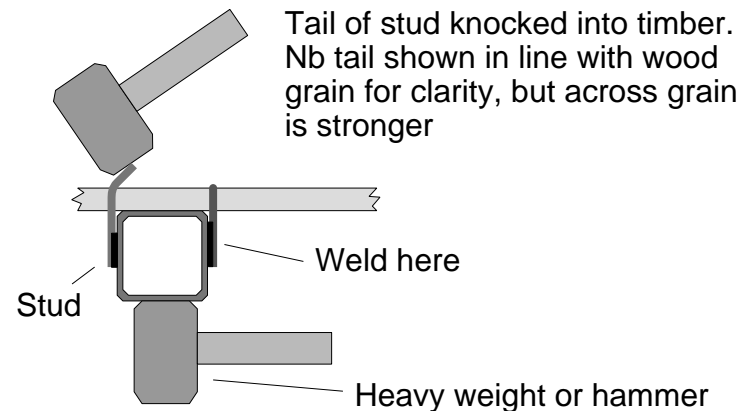

Figure 6: fixing planks to frame with clenched studs.
- 6) Now fix the planks on using clenched over 8 mm re-bar as shown in Figure 6